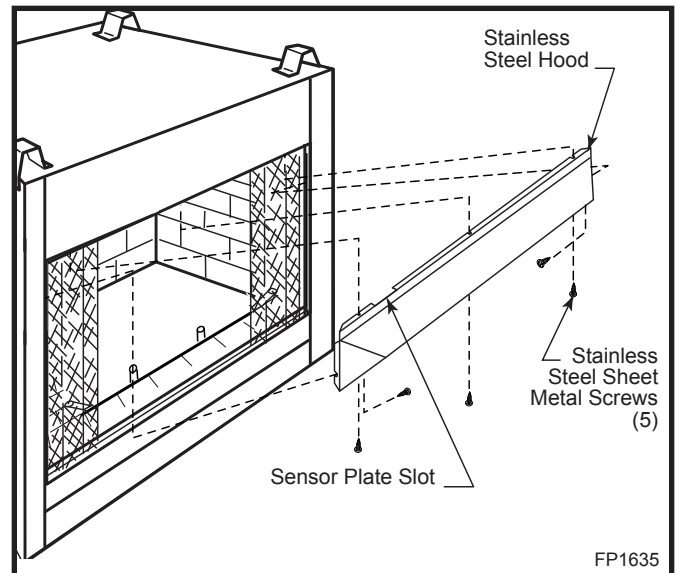

Fig. 21 Secure stainless steel hood with five (5) sheet metal screws.
2. Place the hood so the 2 $\frac{5}{8}$ " (67 mm) slot clears the sensor plate located under the fireplace opening on the top left side. (Fig. 21)
3. Secure the hood to the unit using the three (3) slots in the hood and the pilot holes in the unit with the stainless steel sheet metal screws provided. (Fig. 21)
4. Align the sides of the hood so the pilot holes on the right and left sides of the unit are exposed through the slots on the ends of the hood. Secure using the remaining stainless steel sheet metal screws. (Fig. 21)